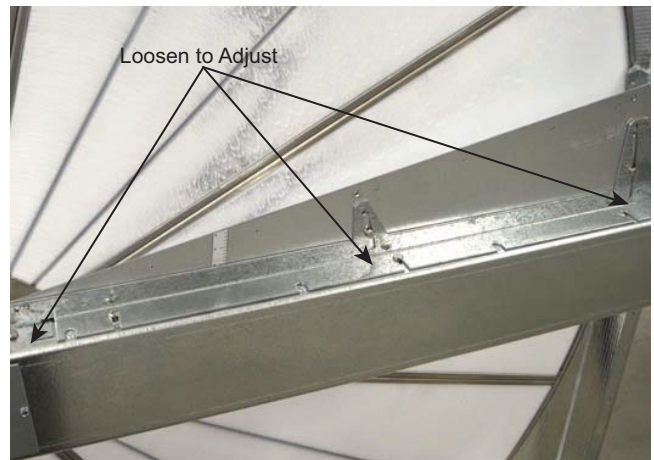

Fig. 25 — Purge Installed On Motor Side Of Wheel
1. Loosen the three purge adjusting screws (Fig. 25).